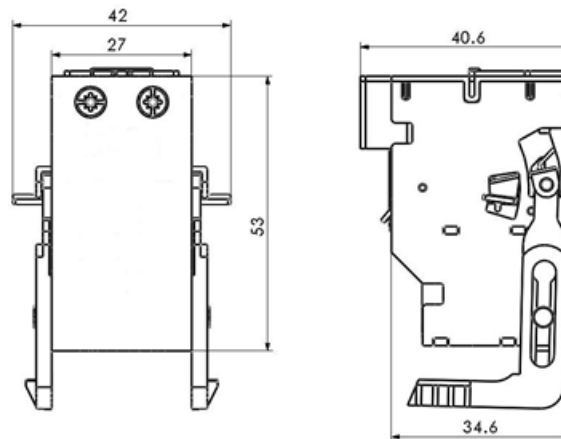

Fig. 7
11.3.5 Outline and installation dimensions (see Fig. 7)